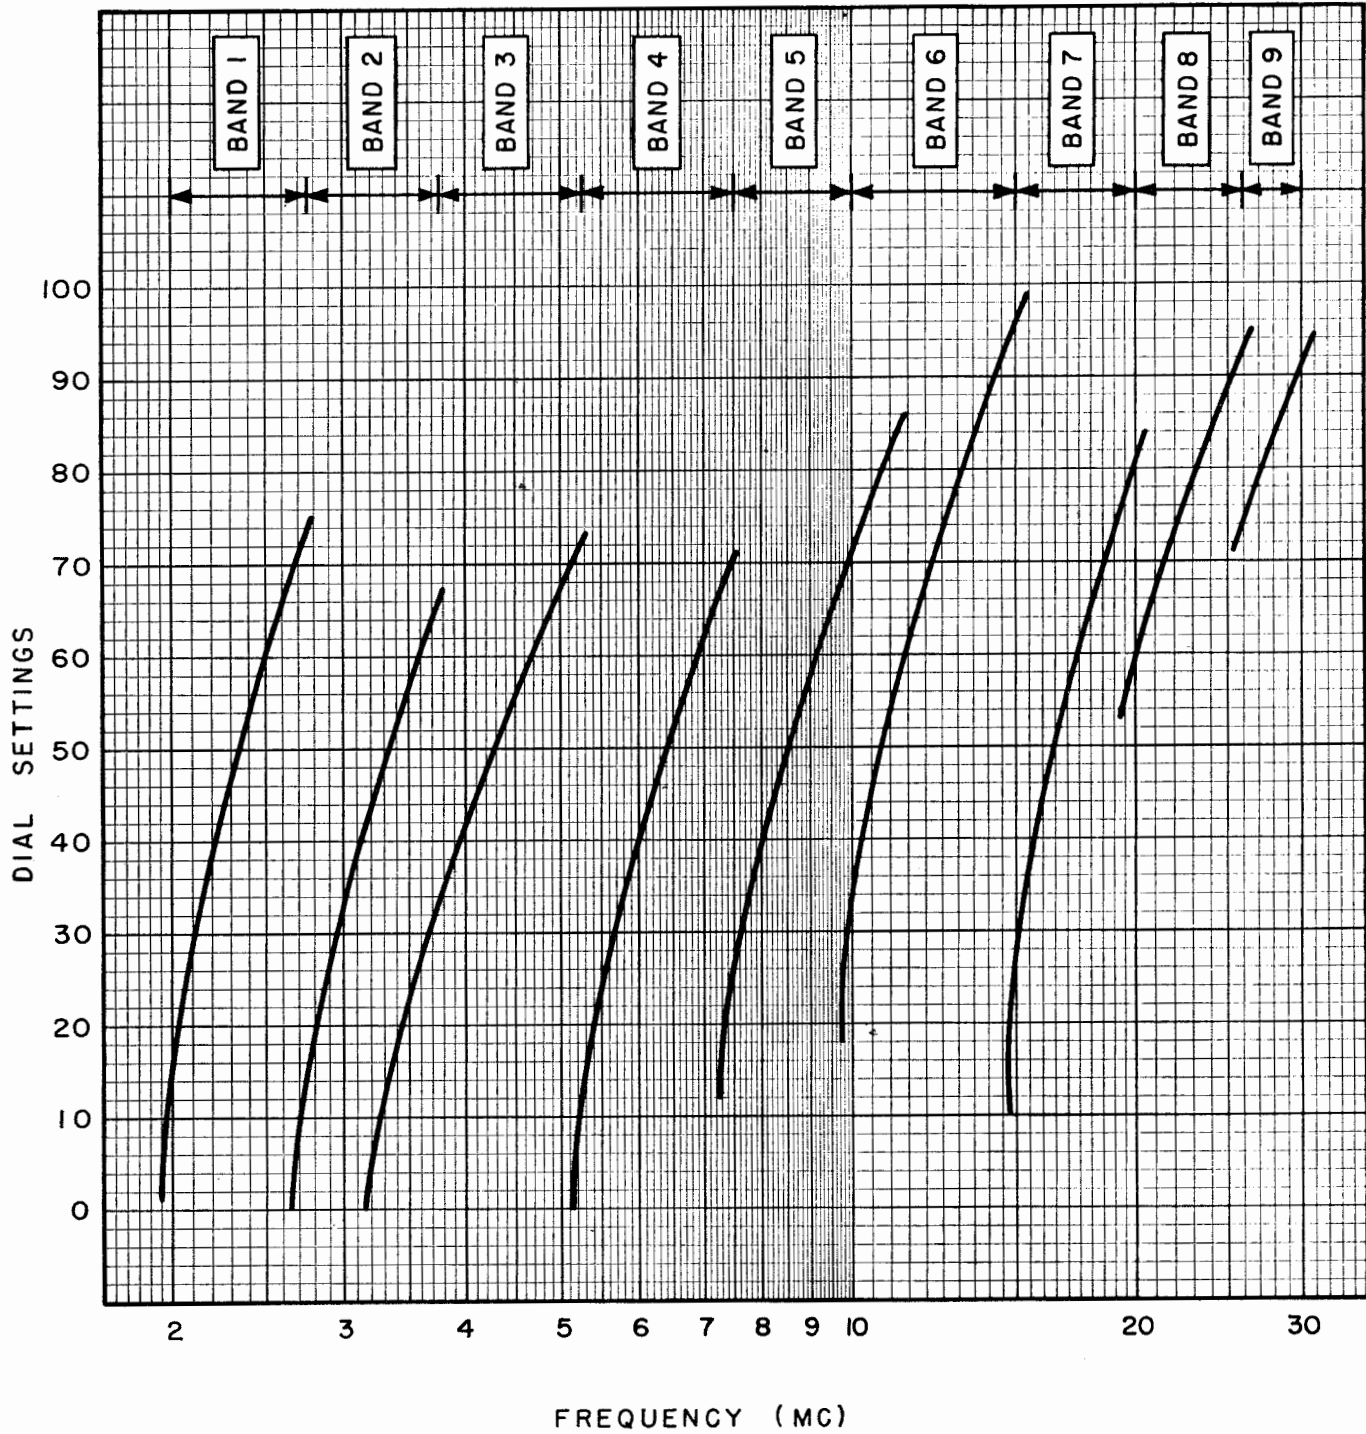

Figure 4-3. IPA Tuning Calibration (Typical)
Step 18. Set I. P. A. TUNING control to the reading obtained from the IPA Tuning Calibration, figure 4-3. Do not lock the dial in position.